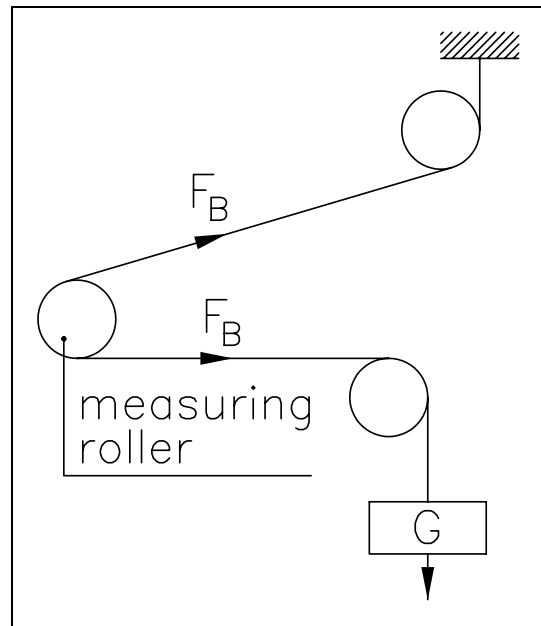

fig. 10: Calibrating the measuring amplifier C431011e
- Load material or rope with a defined weight (fig. 10).